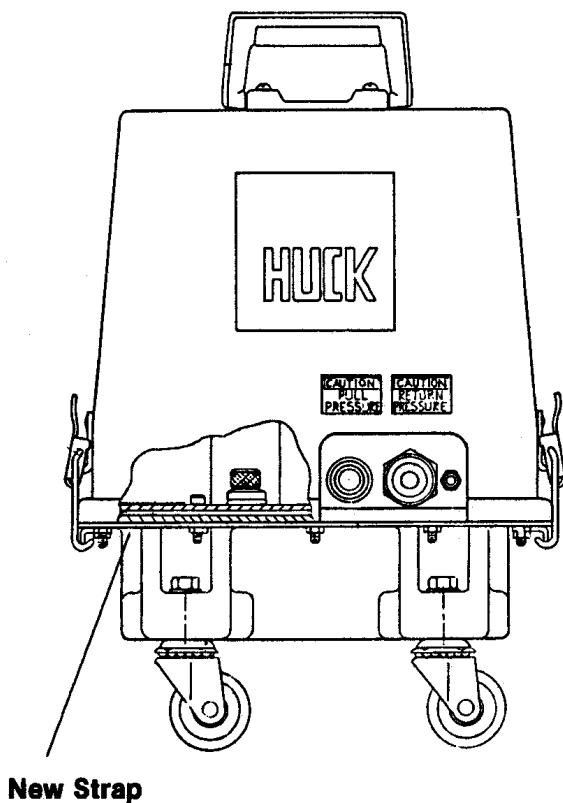

Figure 1
2. See Figure 1. Place strap, while aligning holes, against flange of reservoir.